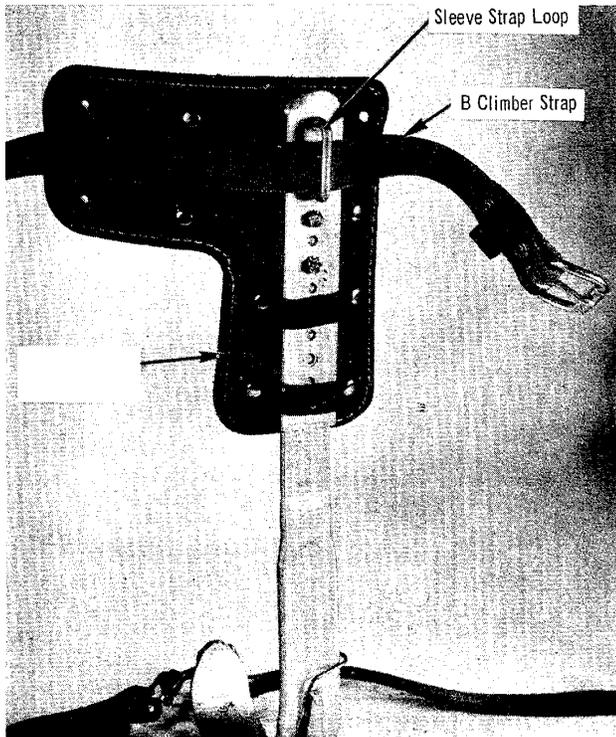

Fig. 6—B Climber Pad (Right) Installed
2.06 The 22- or 26-inch B Climber Strap, Fig. 6, is used to hold the pad on the leg iron and to fasten both to a craftsman's leg when the climber is worn.
Next, place a B Climber Strap and pad on sleeve as shown in Fig. 6. Place the strap so the tongue will point toward back of leg when buckled. Place sleeve on climber, step on stirrup and adjust sleeve to position that is most comfortable. Place one of the set screws to hold the sleeve in